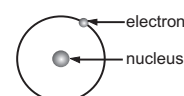

Fig 2.3 : Schematic representation of Rutherford's model
- the rest of the atom would be empty space which contained the much smaller and negatively charged electrons (Fig. 2.3).